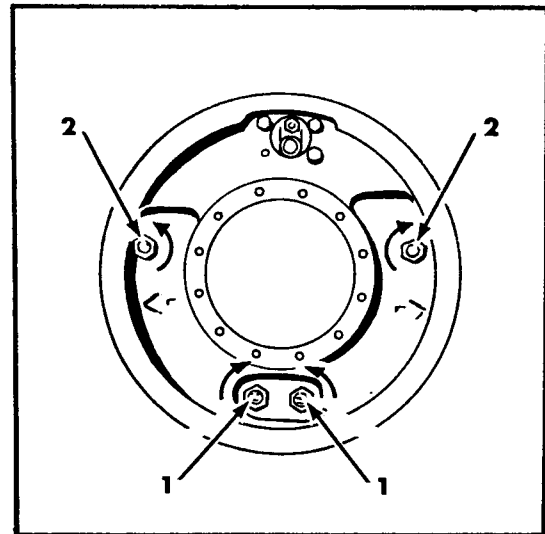

Figure 7. Brake Adjustment
1. Turn brake shoe anchor pins (1) until the punch marks are next to one another. Return toe adjusting cams (2) to fully retracted position. (See Fig. 7 ).
2. Rotate forward shoe toe adjusting cam away from axle and towards shoe until lining drags on the drum. (See Fig. 7 ).
4. Repeat step 2 until drag can no longer be relieved. Back-off the toe adjusting cam (2) and anchor pin adjustment (1) until drag is relieved, then lock the adjustments.